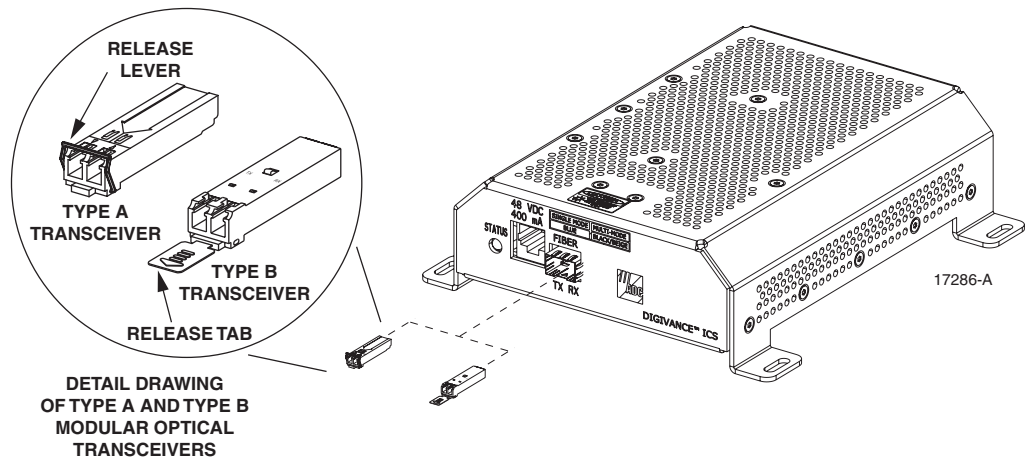

Figure 35. DRU Optical Transceiver Installation
8. Remove the optical transceiver from the anti-static packaging and orient for installation as shown in Figure 35.